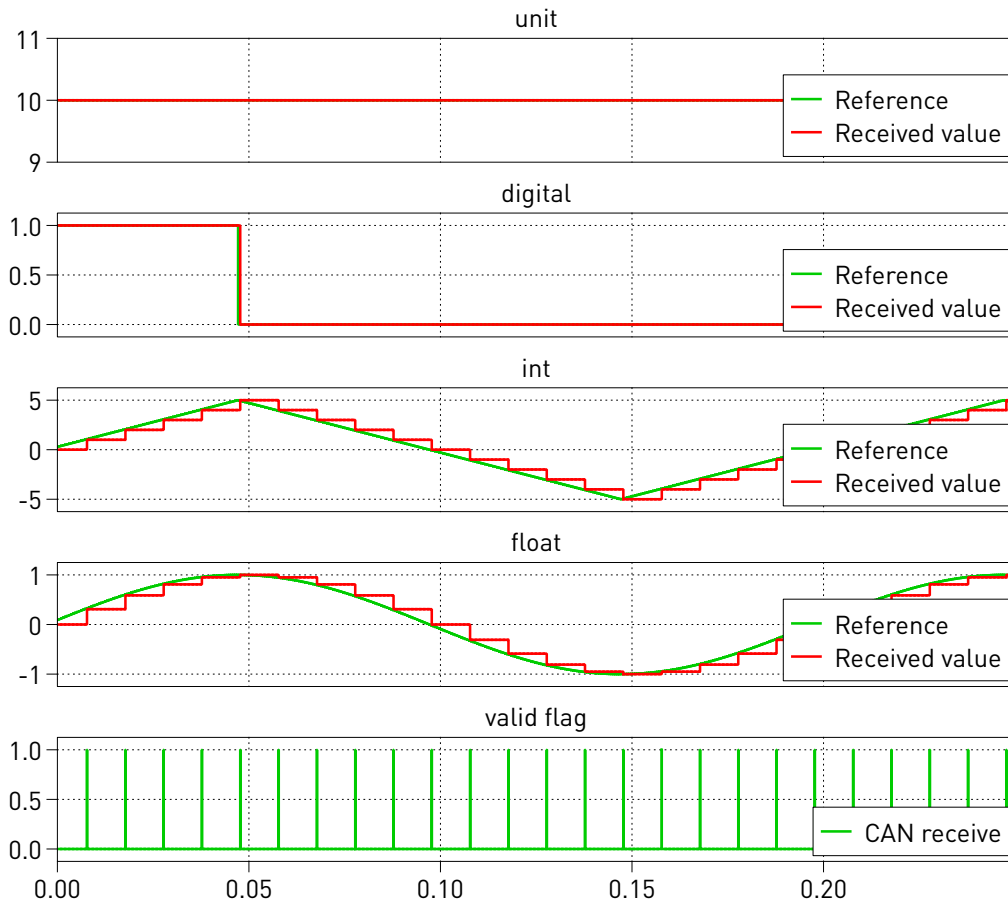

Fig. 6: Real-time waveform showing the four received signals after CAN loop-back test
Build the “RT Box” model onto the RT Box. Once the model is uploaded, from the **External Mode** tab of the **Coder options...** window, **Connect** to the RT Box and **Activate autotriggering**. The real-time simulation results are shown in Fig. 6.
- The first signal received in an unsigned integer with a value of 10. By changing the Constant value in front of the CAN Pack block to another value (for example: from 10 to 20) during run-time, one should see the change reflected on the first received signal of the Scope in Fig. 6 immediately.